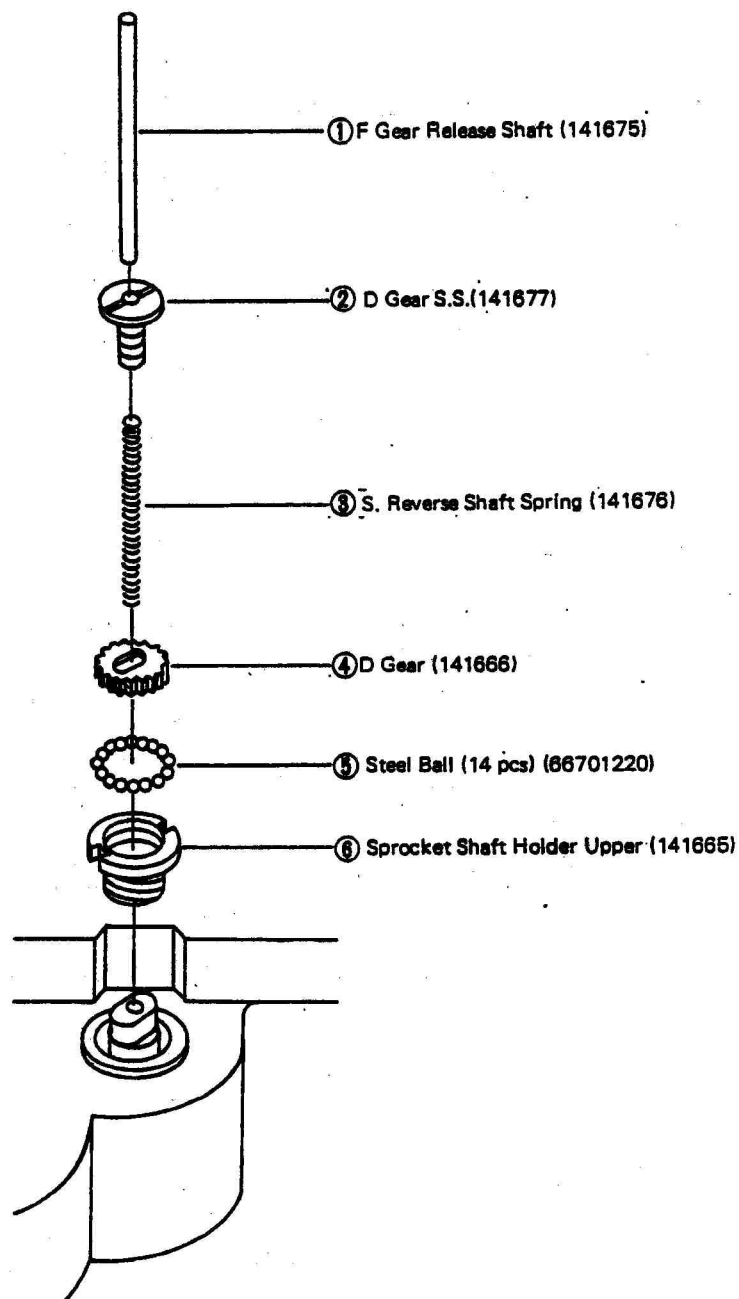

Fig. 40
a) Remove the respective parts ① ~ ⑥ shown in (fig. 40) in numerical order.